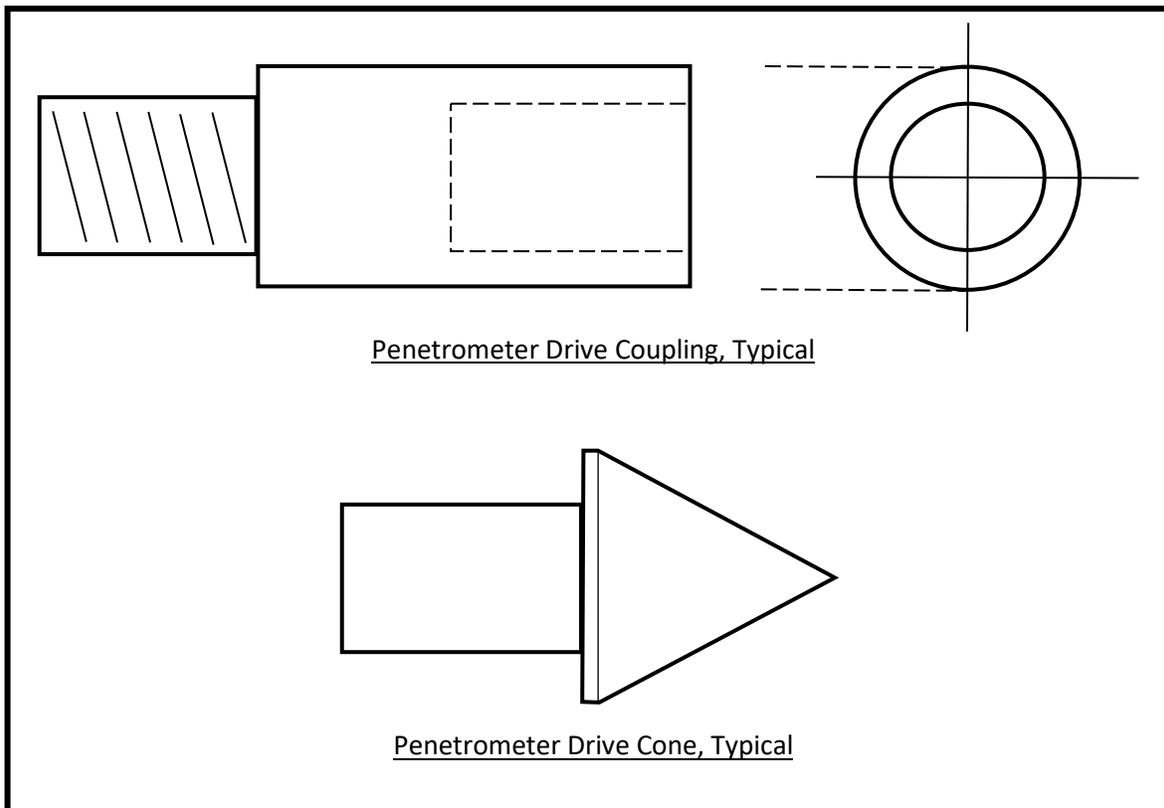

Figure 1
- 2.1 A disposable drive cone shall be used. The cone will have a minimal diameter no smaller than the diameter of the drive rod and the drive coupling. A drive cone diameter of 2 inches in diameter is typical as shown in Figure 1.
- 2.2 The drive coupling for the cone shall be of the same diameter as the drive rod and shall be only long enough to allow for secure connection to the drive rod, to hold the drive cone, and be of sufficient material to not be damaged during the driving and retrieval process. See Figure 1.